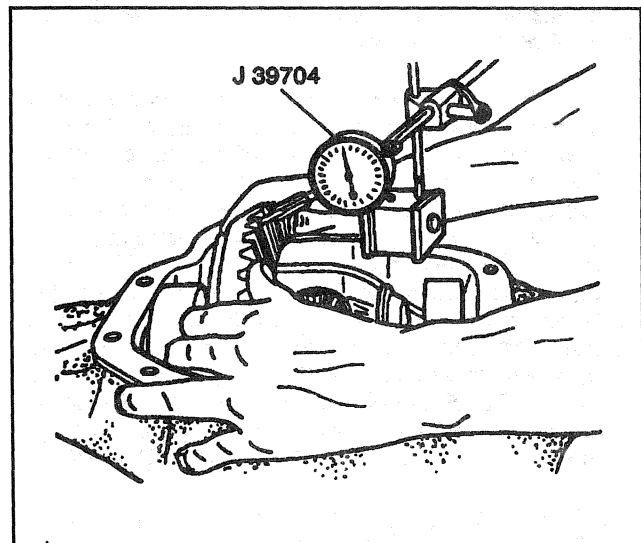

Figure 28—Measuring Backlash
1. Mount a dial indicator with a magnetic base to the axle housing (Figure 28).